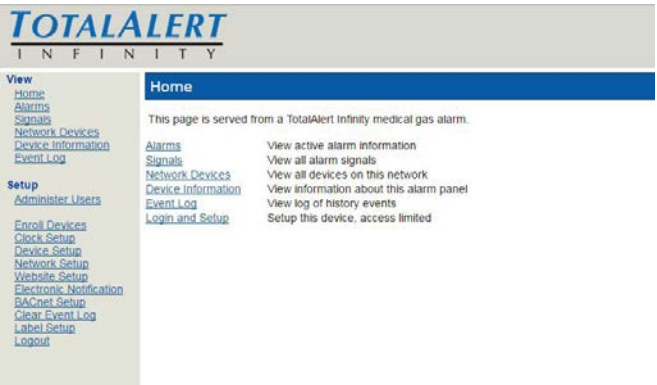

Figure 260
3. The left side bar will now contain the “LabelSetup” link. (See Figure 260)